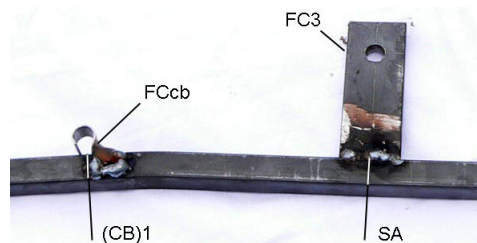

Fig. 39: Position of FCcb and FC3
**Step 9** Weld FC3s to FC1 centred at point SA. See Fig.39/40.